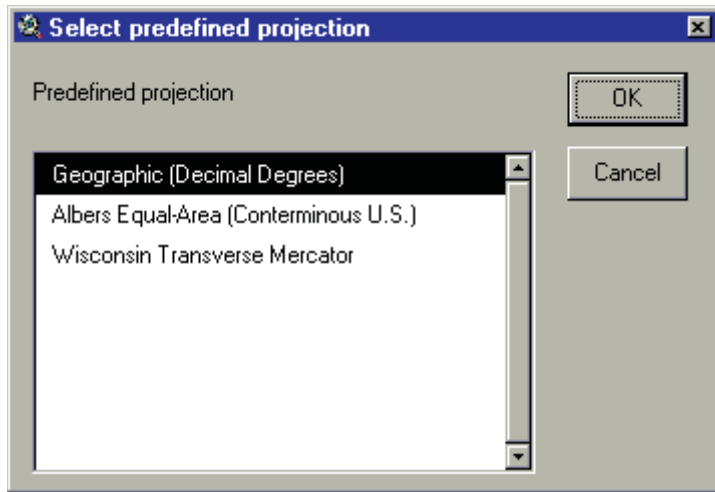

Figure 5.11
8. If **Predefined projection** was chosen, the dialog box in Figure 5.11 will be displayed. Only three projections are predefined in the interface: Geographic (decimal degrees), Albers Equal Area (conterminous US), and Wisconsin TM. Click the project map projection. Once the proper projection is highlighted, click **OK**.